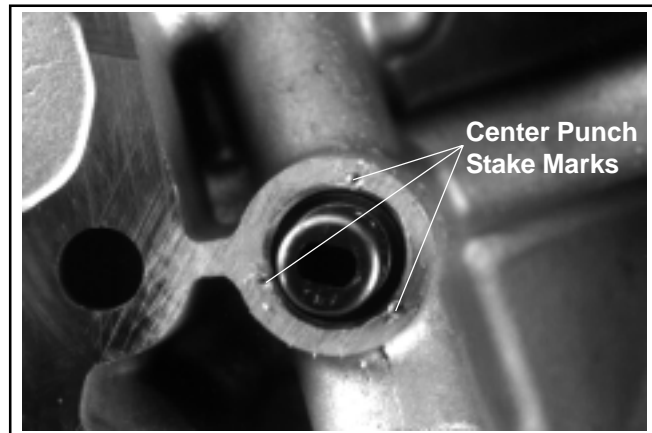

Figure 11-19. Center Punch Stake Marks.
3. Stake the casting boss with a center punch in 3 or 4 locations near the inner edge to lock the relief valve into place. See Figure 11-19. Do not use Loctite®.